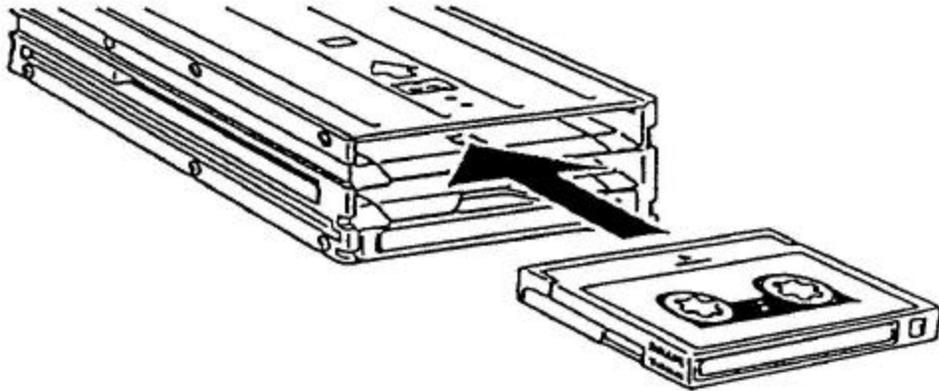

Figure 3-7 Inserting cartridges into the top magazine shelf
2. Insert data cartridges into the top shelf of the magazine. Insert cartridge 4 first, followed by cartridges 5, 6, 7 (in that order) , see Figure 3-7.